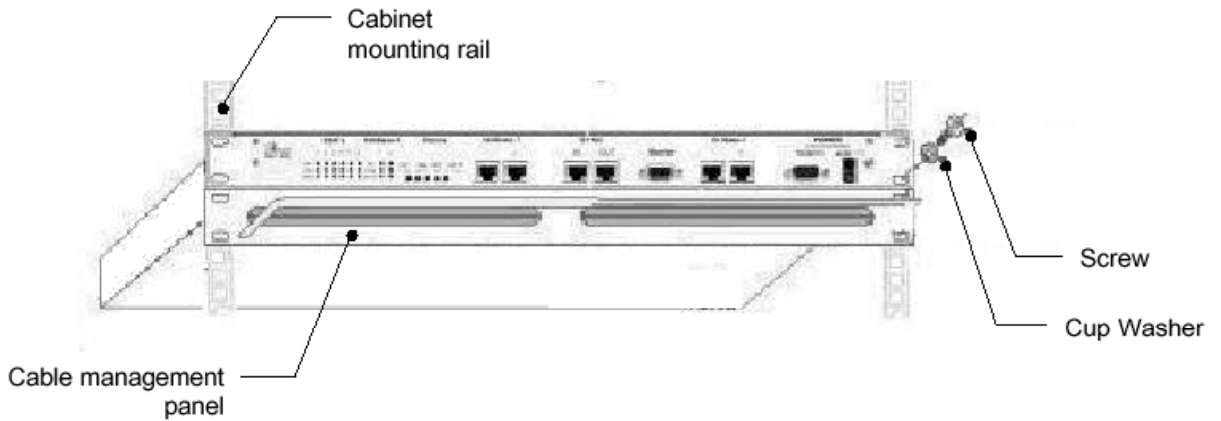

Figure 5-3: BSDU rack mounting
4. Insert the M5-mounting screws, with plastic washers, in the BSDU mounting bracket screw holes, on each side, as shown Figure 5-3. In this way, the chassis is supported until you tighten the chassis screws.